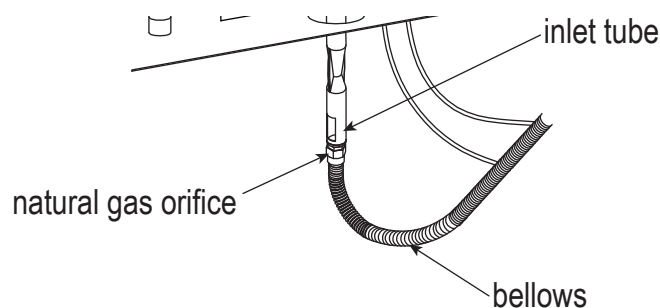

Figure 14
3. Replace the propane orifice with the natural gas orifice and screw the natural gas orifice to the bellows tightly. Then connect and tighten the natural gas orifice to the inlet tube (see Figure 14). The Natural gas orifice (4.18 mm diameter size) is painted with a black mark.